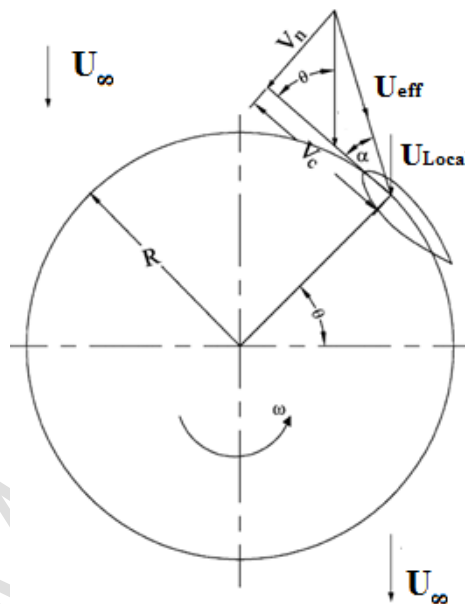

Fig.Q3 Wind flow velocities vector diagram
a) For a vertical wind turbine whose wind flow velocities vector diagram shown in Fig. Q3 below,